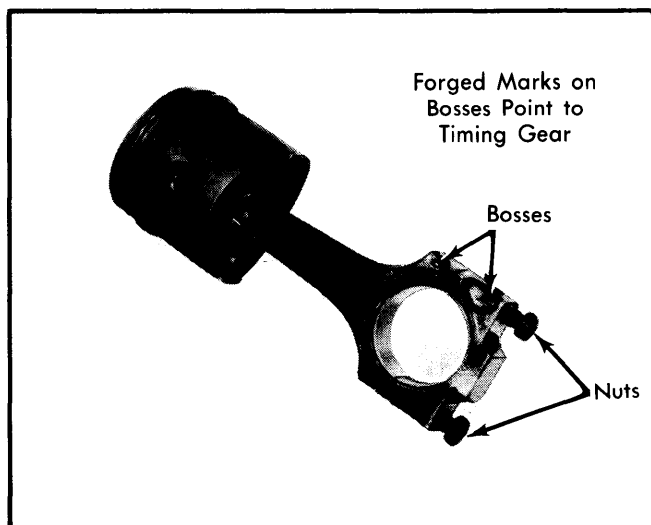

Fig. 6 Identification Marks on Connecting Rod Bosses
2) On reassembly of piston and rod assemblies, forged marks on rod and cap, as well as locating projections on bearing inserts, should face toward timing gear at front of engine. See Fig. 6. All connecting rods must be of same weight class. Weight class numbers are stamped on bottom of connecting rod caps. Using a ring compressor tool (US 1008A), install piston and rod assemblies with arrow on top of piston facing timing gear (front of engine).